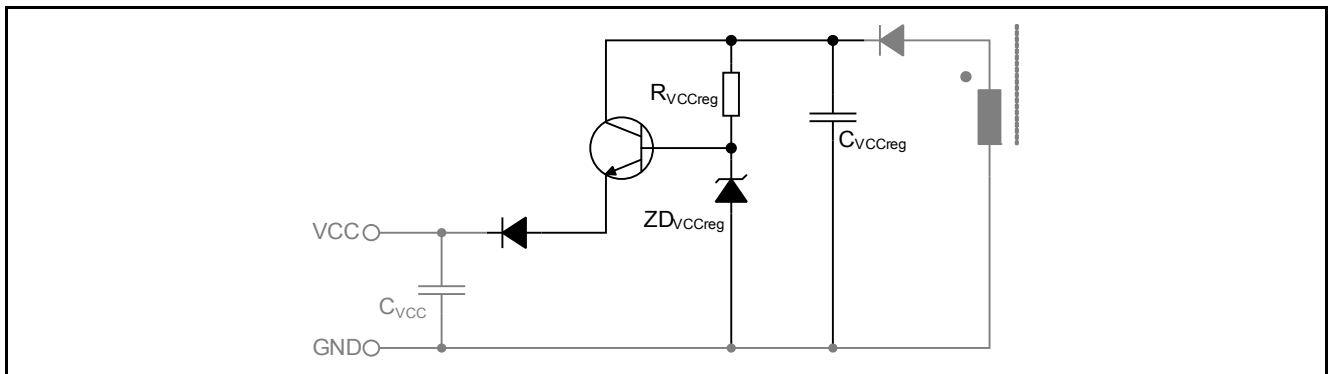

**Figure 10** Optional circuit for isolated dimming with CDM10V
**Figure 10** shows an exemplary schematic of a 0-10V dimming interface for low BOM cost, using CDM10V by Infineon. CDM10V is a fully integrated 0-10V dimming interface IC which transmits secondary side analog voltage based signals from 0-10V dimmer to primary side, by driving an external opto-coupler with a 5mA current based PWM signal. The secondary auxiliary winding is necessary to supply the operating voltage of CDM10V. For more details about CDM10V, please visit Infineon website: <http://www.infineon.com/cdm10v>